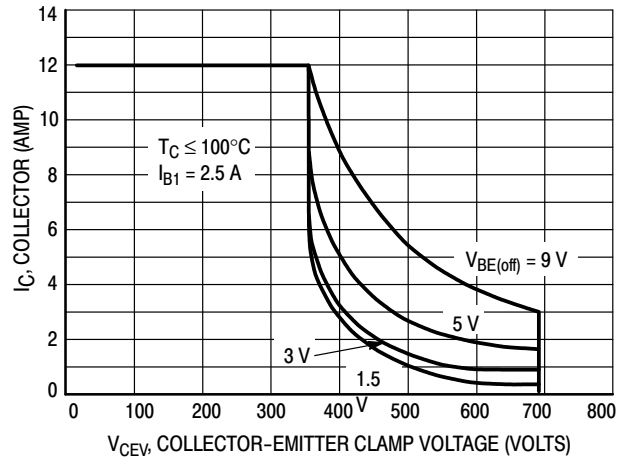
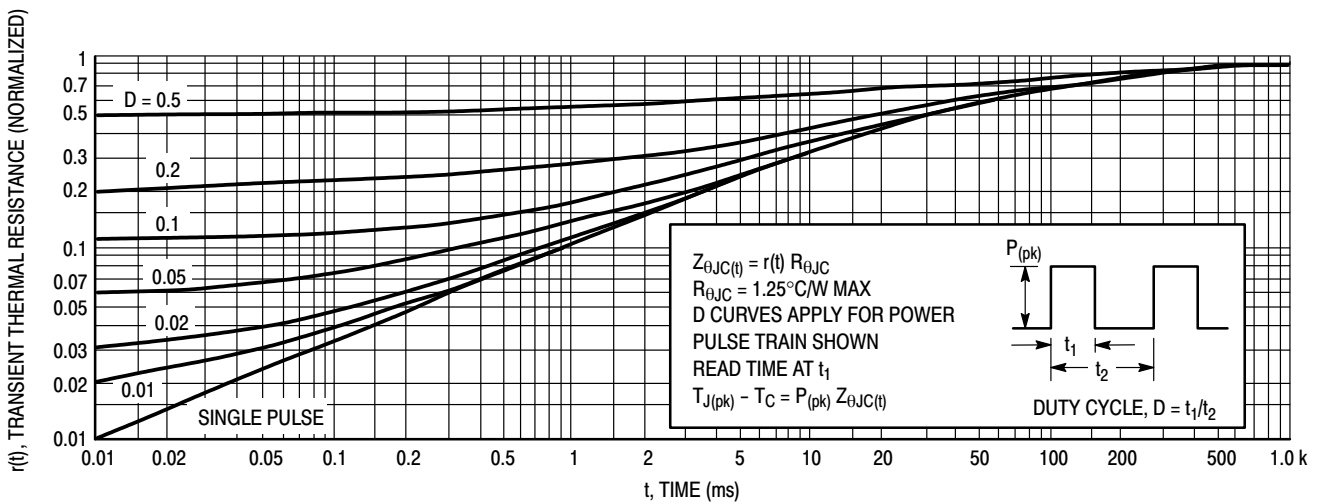

Figure 2. Reverse Bias Switching Safe Operating Area
Figure 4. Typical Thermal Response [$Z_{0JC}(t)$]
$T_{J(pk)}$ may be calculated from the data in Figure 4. At high case temperatures, thermal limitations will reduce the power that can be handled to values less than the limitations imposed by second breakdown. Use of reverse biased safe operating area data (Figure 2) is discussed in the applications information section.
For inductive loads, high voltage and current must be sustained simultaneously during turn-off, in most cases, with the base to emitter junction reverse biased. Under these conditions the collector voltage must be held to a safe level at or below a specific value of collector current. This can be accomplished by several means such as active clamping, RC snubbing, load line shaping, etc. The safe level for these devices is specified as a Reverse Bias Safe Operating Area (Figure 2) which represents voltage-current conditions that can be sustained during reverse biased turn-off. This rating is verified under clamped conditions so that the device is never subjected to an avalanche mode.
3. The base drive conditions are within the specified limits shown on the Reverse Bias SOA curve (Figure 2).